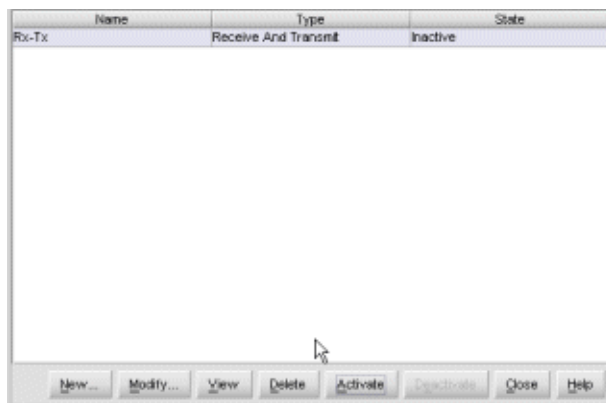

Figure 41: Configure Threshold Alerts dialog box
12. Click **Finish**. The Configure Threshold Alerts dialog box displays, as shown in Figure 41.